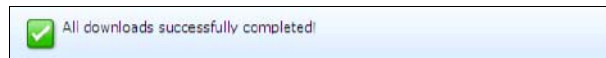

Figure 5-89 Download process completes successfully
9. A message appears that shows that the download completed, as shown in Figure 5-89. Click **Next**.